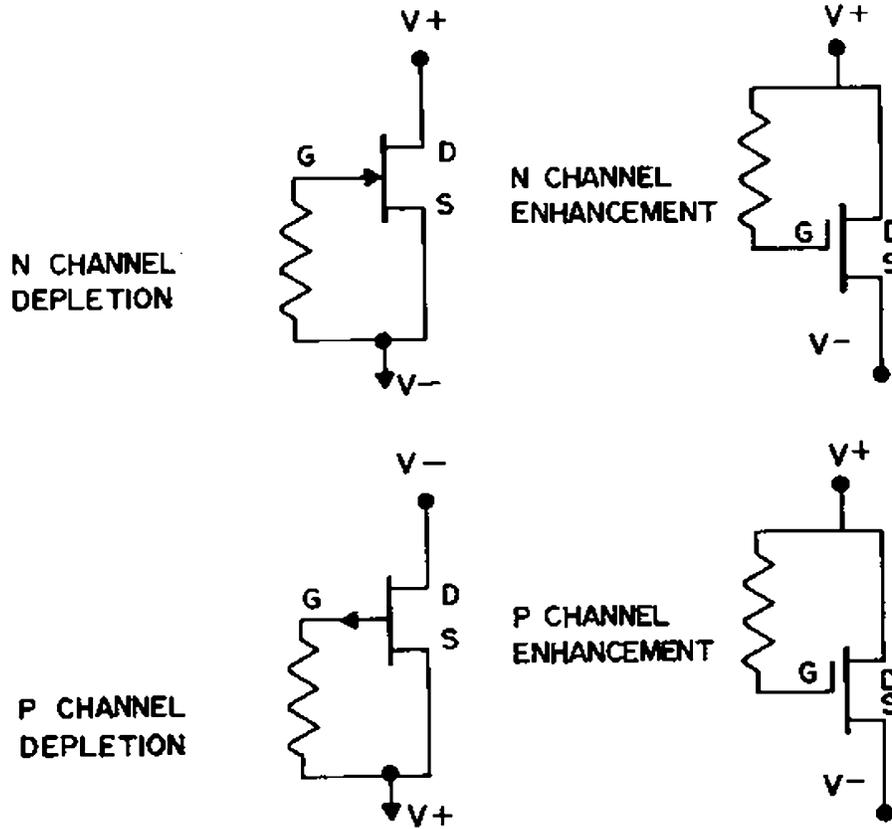

Fig. 13. Typical FET Schematic Diagrams
1. Press the GATE 1 button. Select the correct mode of FET operation by pressing the NORM button for depletion types, or the ENHANCEMENT button for enhancement types. Select the correct polarity by pressing the N button for N channel FET's or the P button for P channel FET's. The diagrams in Fig. 13 show typical circuits and biases for N channel, P channel, enhancement, and depletion FET's.